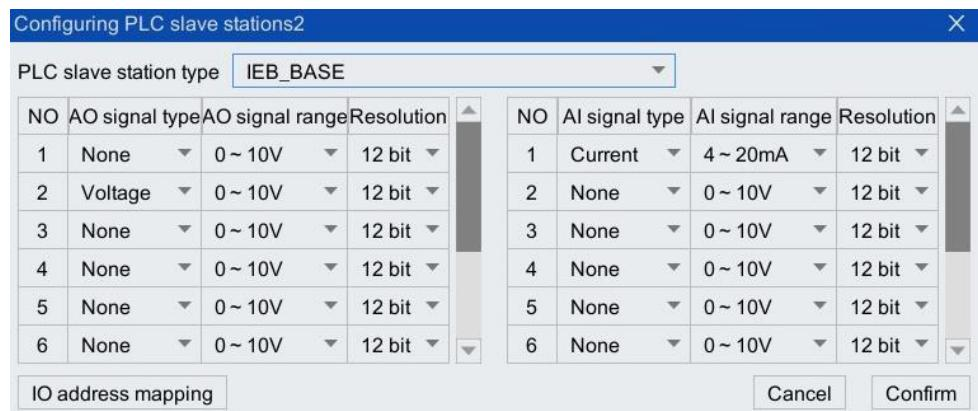
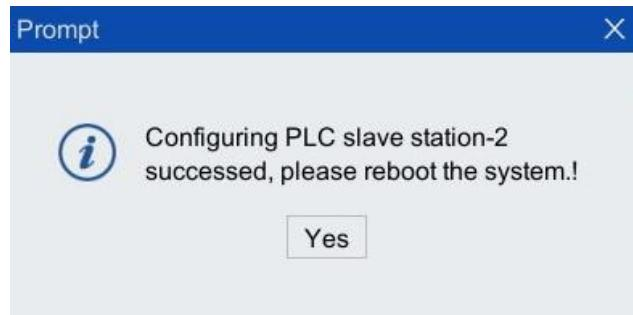

Figure 4-6 [Configure PLC slave-2] interface
Figure 4-7 Prompt dialog box
Step3. In the [Configure PLC Slave-2] interface, select the matching "PLC slave type" based on the information in Table 4-1. Figure 4-6 shows the interface for selecting "IEB\_BASE".
Step4. After completing the parameter configuration in Figure 4-6, click <Yes>, and a prompt dialog box will pop up (as shown in Figure 4-7). Click <Yes>, and after the power is turned off and restarted, the configuration takes effect.